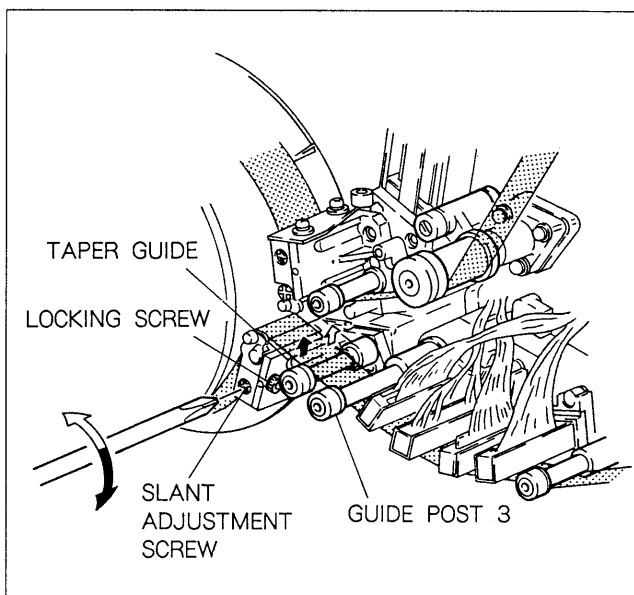
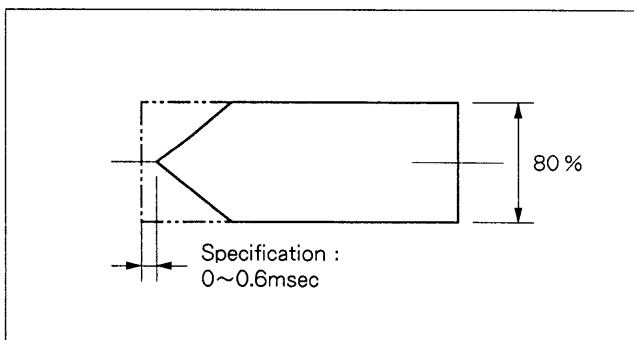

Fig. 9-5-14. Exit Slant Guide Slantness Adjustment
Fig. 9-5-15. Tape Exit Side RF Waveform (3)
- (1) Loosen the exit slant guide locking screw (opposite side: 2.5 mm) as shown in Fig. 9-5-14.
- (2) Press the top or bottom edge (between exit slant guide and taper guide) of the tape from the back-coated surface with toothpick while it is running, and find the RF waveform where it becomes good.
- (3) Perform adjustment by turning the slant adjustment screw of the exit slant guide until the RF waveform meets the specification shown in Fig. 9-5-15.